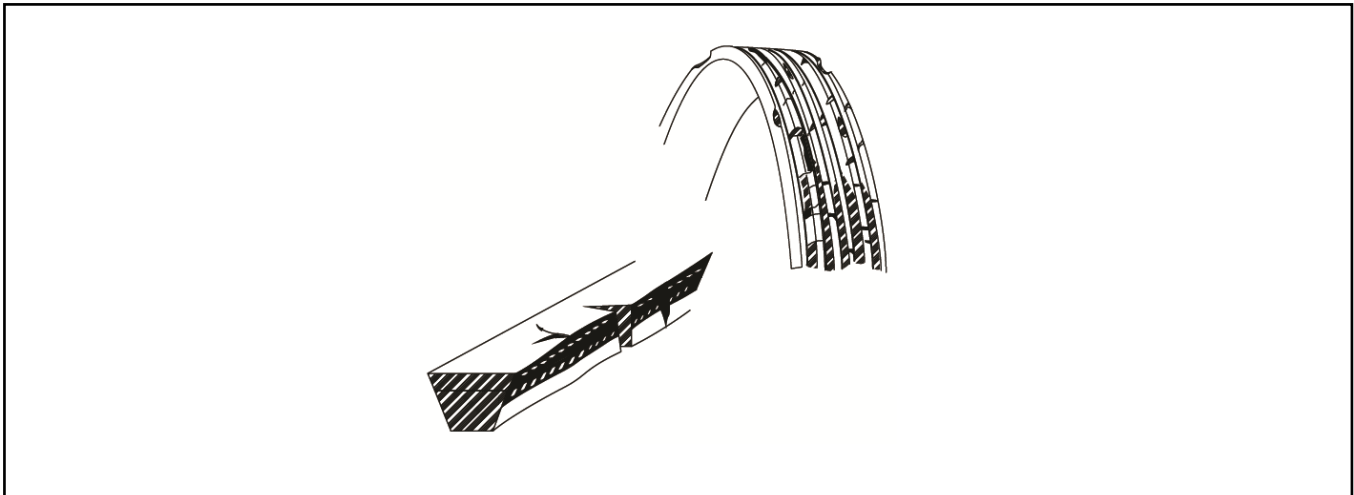

Figure 36 Drive Belt
3. Inspect the drive belt. Look for signs of cracking, separation, cuts, or other damage. See Figure 36.